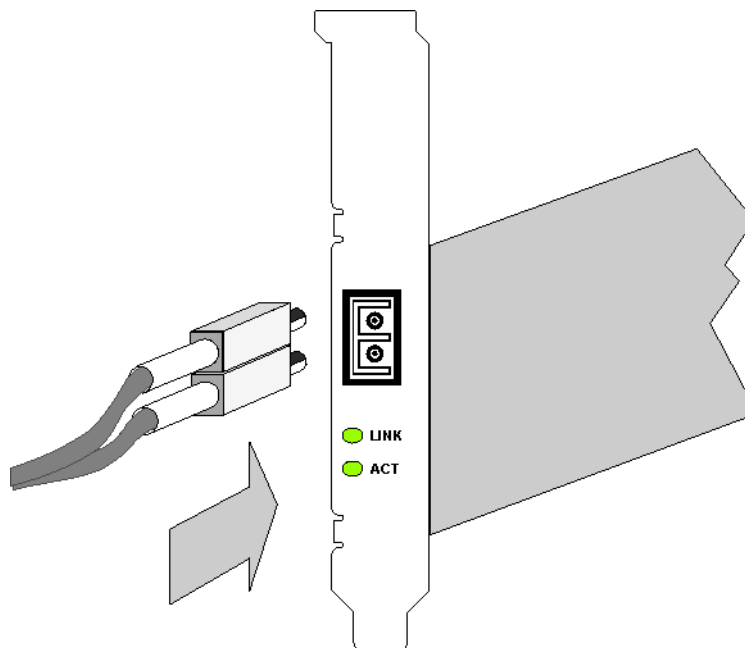

Figure 2. Connection of fiber-optics cables/plugs
6. At the other end of the cable connect the connector to the port on the network adapter (see figure 2 “Connection of fiber-optics cables/plugs”).